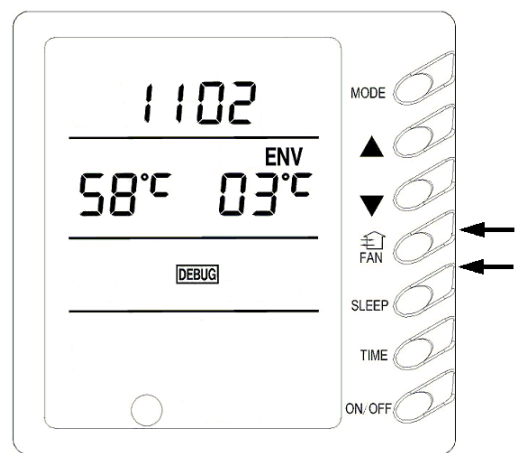

Fig.19
12) System Parameters Review (Fig.19,20)